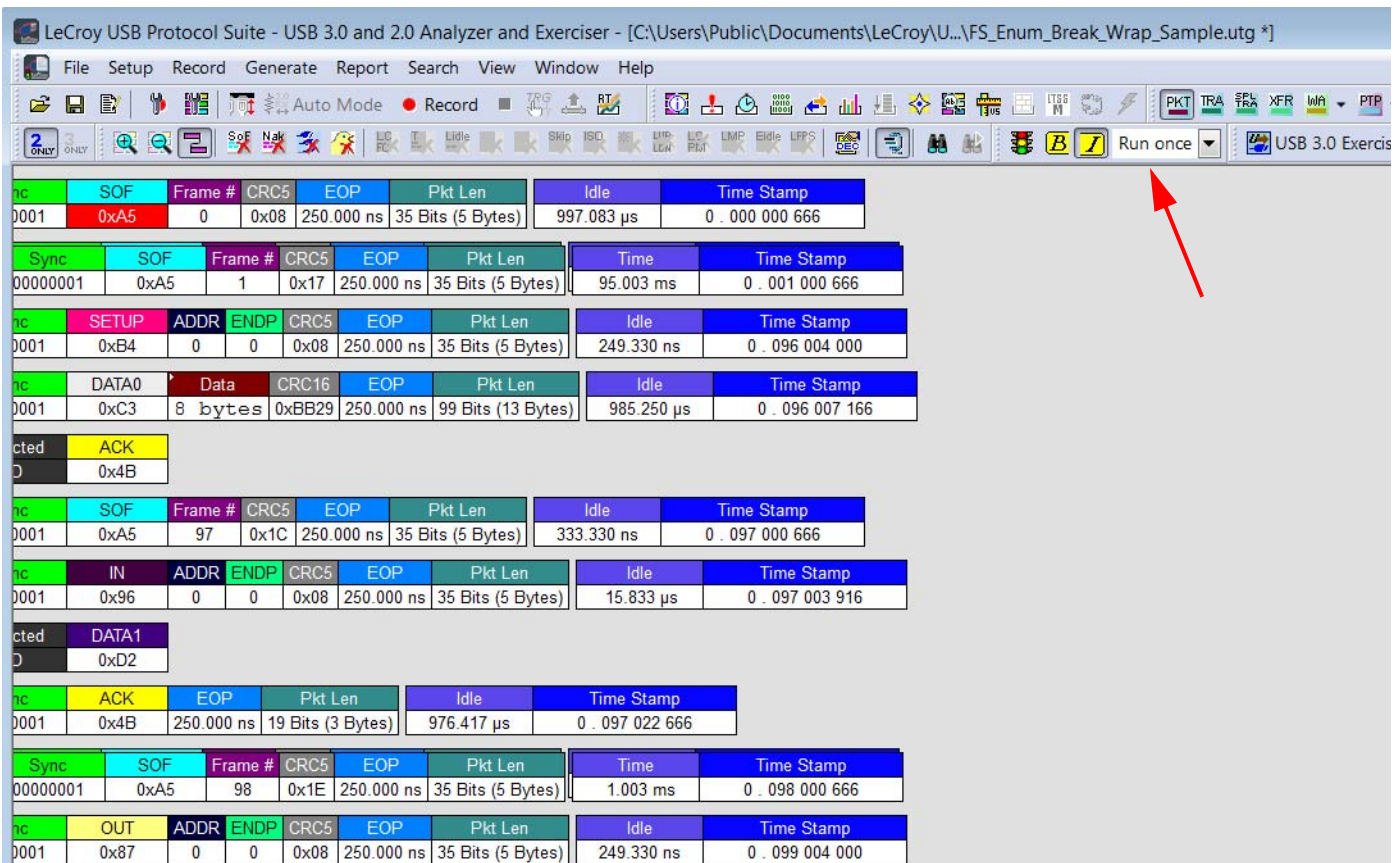

Figure 11.13: Traffic Generation File
4. Click **Open**. The file opens (see Figure 11.13 on page 326.)